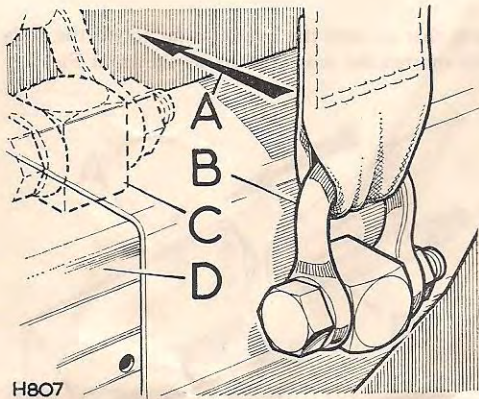

Fig. 4 Diagonal strap fixing, upper bulkhead panel. Except Station Wagon, right-hand side illustrated
6. Screw the shackle bolt into the tapped hole in shoulder bracket, rear of seat panel capping using rubber washer and plain washer. Tighten the shackle bolt so that it is located as illustrated at Fig. 4 in full line. The rubber washer allows the shackle bolt to be correctly aligned. Do not over-tighten.
7. Screw the shackle bolt into the tapped hole in top capping of seat panel, using rubber washer and plain washer. Tighten the shackle bolt, so that it is located as shown at Fig. 4 in dotted line. The rubber washer allows the shackle bolt to be correctly aligned. Do not over-tighten.